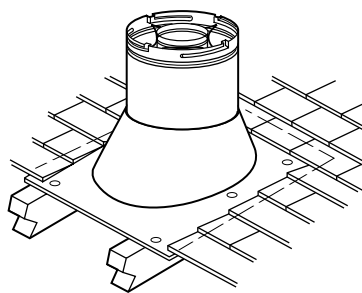

Figure 24
I. Install the roof flashing - Extend the vent sections through the roof structure. Install the roof flashing over the vent section and position such that the vent column rises vertically (use carpenter's level) (**Figure 24**). Nail along perimeter to secure flashing or adjust roofing to overlap the flashing edges at top and sides only and trim where necessary. Seal the top and both sides of the flashing with waterproof caulking.